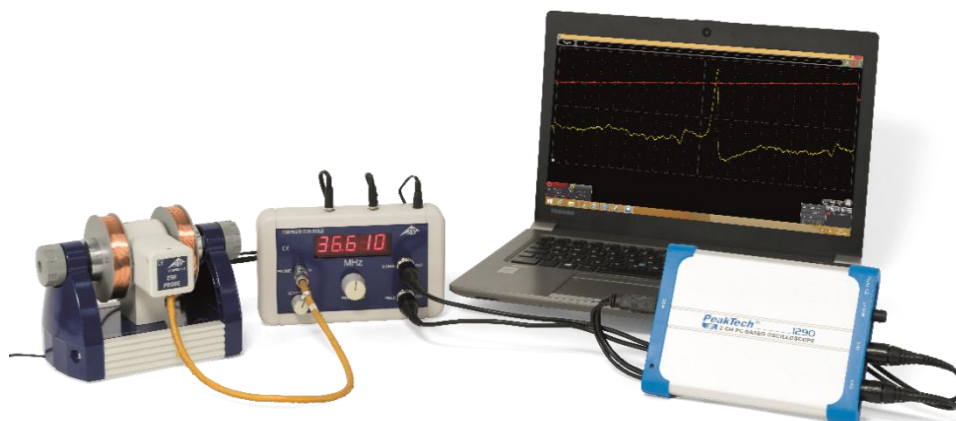

Fig. 3: Experimental setup for ESR with a PC oscilloscope
- Connect the “SIGNAL OUT” output of the control unit to channel 1 of the oscilloscope and the “FIELD OUT” output to channel 2 (see fig. 3).